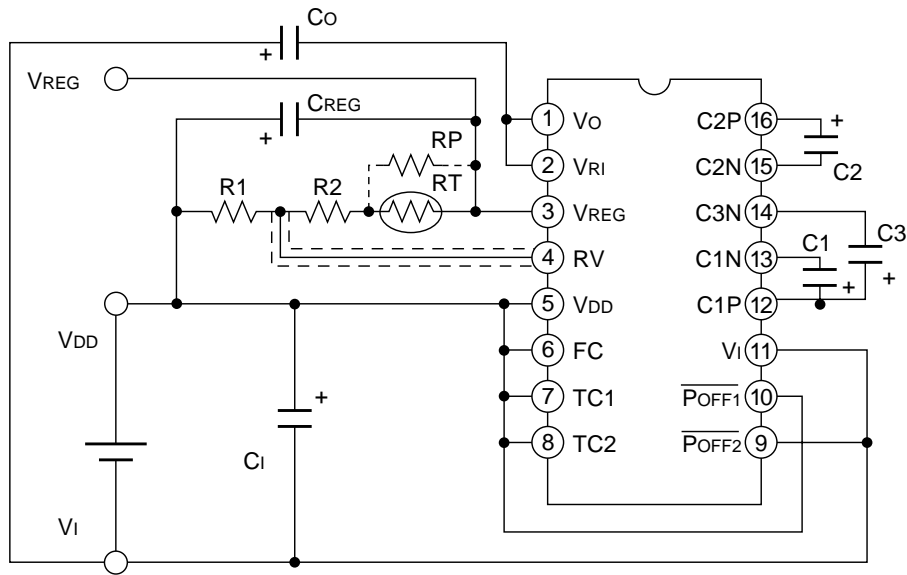

Figure 2.16 Wiring example when changing the regulator temperature coefficient
voltage. To set another temperature coefficient, use a thermistor resistor or others as shown in Figure 2.16.
- ◇ Setup conditions of Figure 2.16
- Set the  $\overline{\text{POFF1}}$  pin to low (VI) to turn off all circuits.
- The thermistor resistor (RT) has the non-linear temperature characteristics. To correct them to the linear characteristics, insert the RP as shown Figure 2.16.